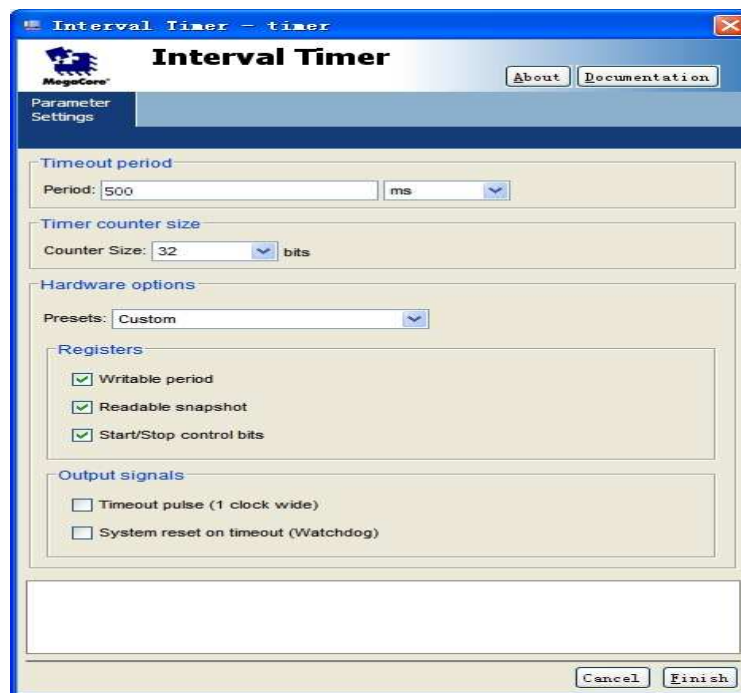

Figure 4. Specification for the Interval Timer
- For the Timeout Period choose a Fixed Period of 500 msecas shown in Figure 4.